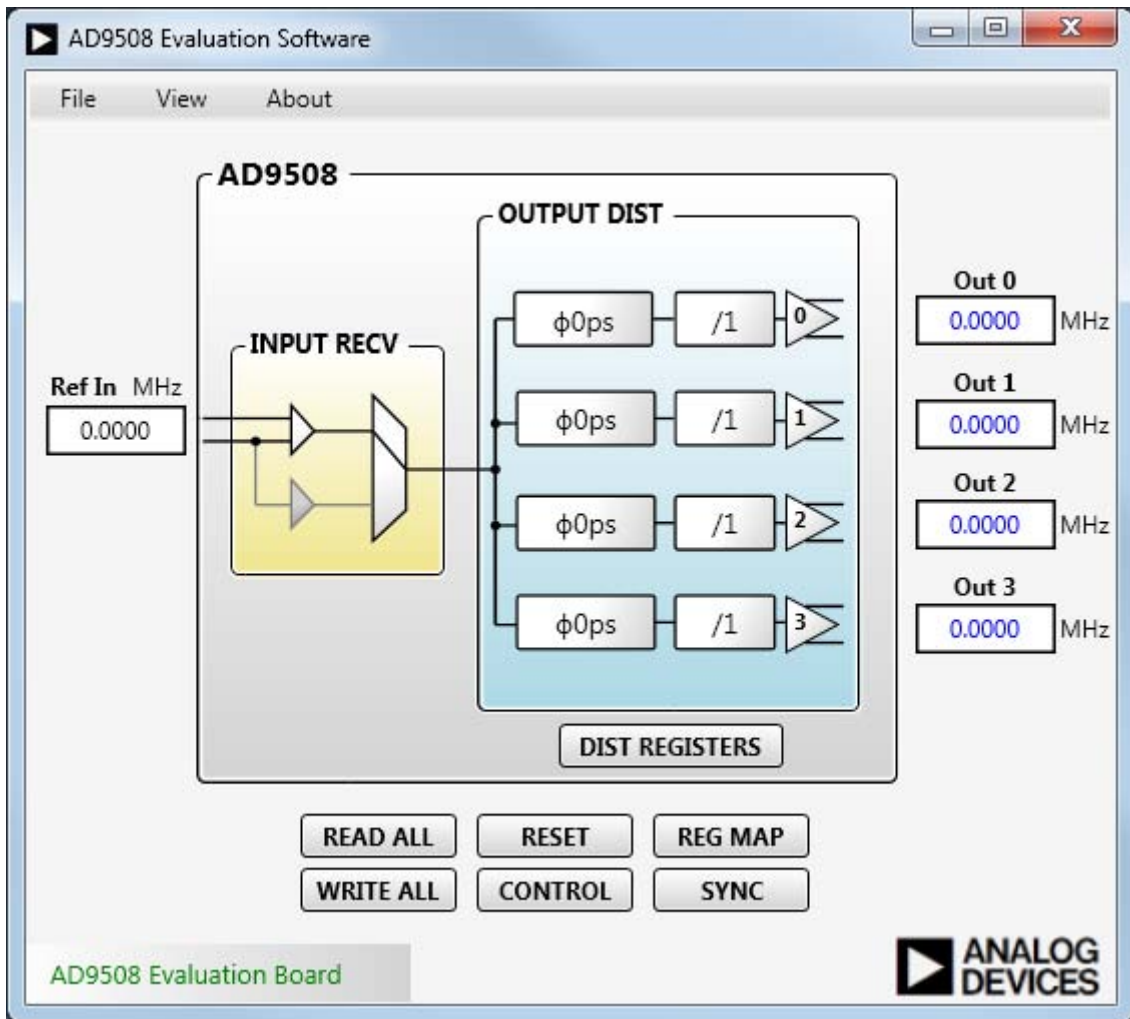

Figure 4. Evaluation Software Main Window
2. Double-click **AD9508 Evaluation Software** to run the AD9508 software. If the evaluation board is found by the software, the lower left corner of the main window (see Figure 4) displays **AD9508 Evaluation Board** in green. If the evaluation board is not found, the lower left corner of the window displays **No Hardware Connected!** in red.